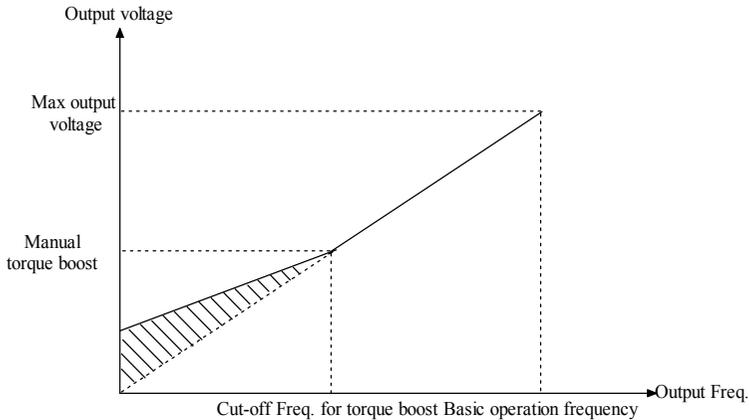

Figure 5-9-3 Manual Torque Boost
- ◆ To improve the low-frequency torque characteristic, certain boost compensation can be made for the output voltage. When the function code is set as 0.0%, it is at the V/F control mode; when it is not set as 0, it is at the manual torque boost mode, as showed in Figure 5-9-3.
- ◆ This function defines the cutoff frequency for manual torque boost as showed in Figure 5-9-3. The cutoff frequency is applicable to any V/F curve determined by P9.00.